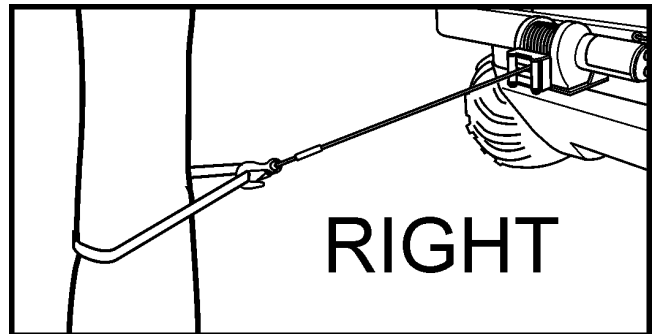
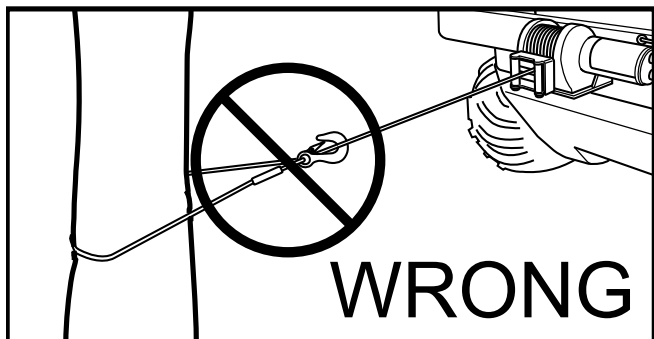

Figure 11-15. Correct hook-up.
Figure 11-16. Incorrect hook-up.
8. **NEVER HOOK THE WIRE ROPE BACK ONTO ITSELF.** Use a nylon sling. (Figure 11-15). Hooking the wire rope onto itself can damage the rope (Figure 11-16).